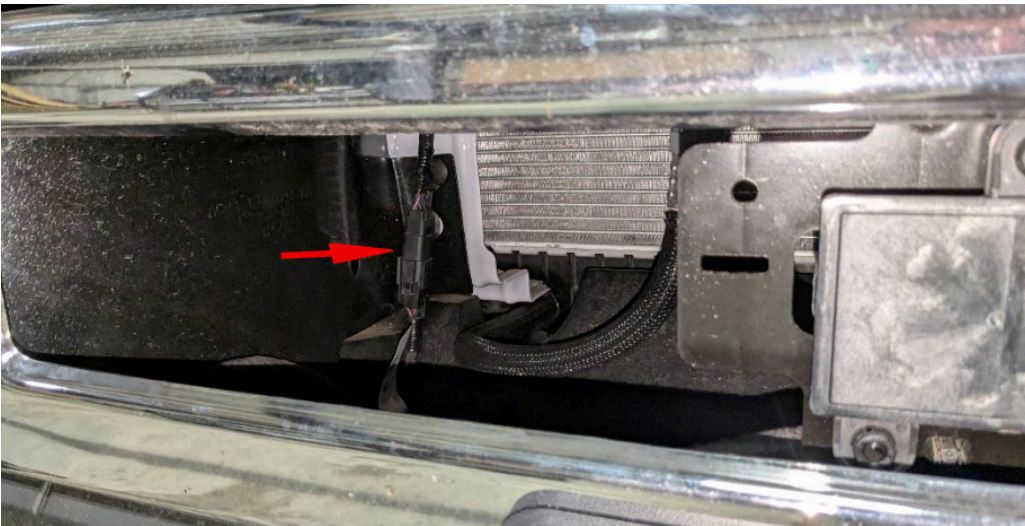

Figure 2
3. Disconnect the sensor wiring harness from the vehicle. Figure 2